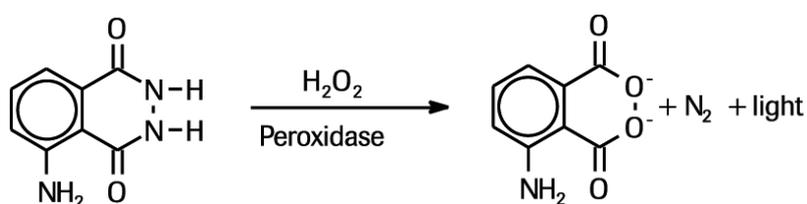

Fig. 1: Reaction mechanism
- Strong enhancement of the light emission is produced by 4-iodophenol. This acts as a radical transmitter between the formed oxygen radical and luminol, see Figure 1.